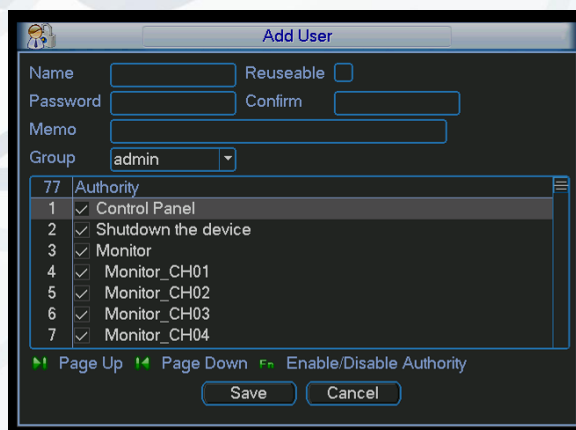

Figure 5-91
- Click add user button, the interface is shown in Figure 5-91.
- The modify user interface is similar to Figure 5-91.